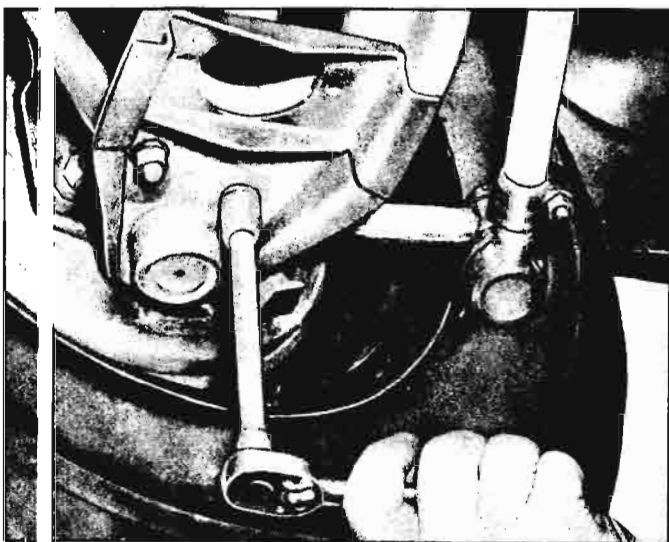

Fig. 3-11—Removing Strut Rod Nuts
3. Remove the two strut rod to control arm, nuts and lockwashers (fig. 3-11). The studs are pressed into the end of the strut rod.
Attach strut rod to control arm with two attaching nuts and lockwashers (fig. 3-11). The studs are pressed into end of strut rod.
- Remove the two nuts and lockwashers that secure the front end of strut rod to lower control arm (fig. 3-11).